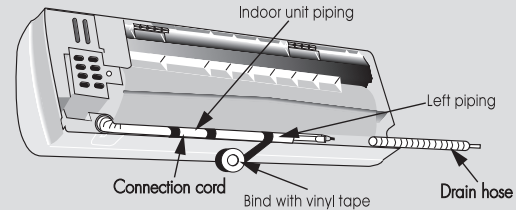

Figure 10
- Form the refrigerant piping in the required direction, and bind the drain hose and the electrical connection cord together with vinyl tape. The drain hose should be at the bottom. (Figure. 10)